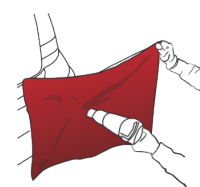
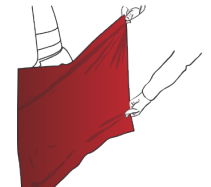
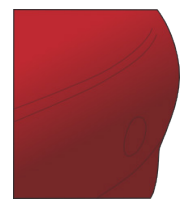

Figure 12
Figure 13
Figure 17
- Heat the vinyl to a temperature ranging from 40 °C to 50 °C (from 104 °F to 122 °F) (FIG. 12) (from 30 °C to 40 °C (from 86 °F to 104 °F) for the HX45CA890B, HX45CA891B, HX45CA892B), then stretch the film so as to completely wrap the convex surface. (FIG. 13)
- The application is complete. (FIG. 17)
In regard to SKINTAC HX45000 films with structured effects (carbon effect), particular care must be taken when heating the stretched film. (FIG. 12) to (FIG. 17) The hot air gun or the gas torch must never be held at a right angle to the surface of the film. It should be inclined so as to heat a larger surface area. Keep the hot air gun moving all the time. Never heat a small surface area over a prolonged period.